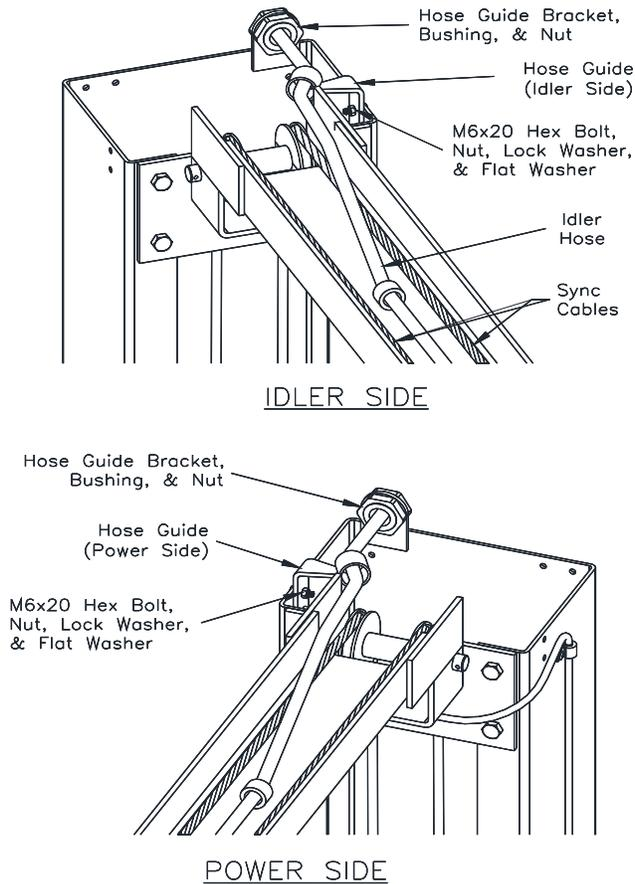

Fig. 8 – Column Extensions
- Attach bolt-on parts to column extensions as shown in **Fig 8** and assemble to columns using M12 x 30 Hex bolts. Ensure power extension assembly is bolted to power column. NOTE: Install Nut and Washers on exterior of the assembly.
- 26) Beginning on the idler side, attach the idler hose to the cylinder elbow fitting. Route the idler hose (long) up the backside of the column and thru the plastic guide at the top of the extension. Continue across the overhead through each of the guides as shown in **Fig 8** and down the backside of the power column.
30) Use hardware shown in Fig 8 to install bolt-on hose guide components.